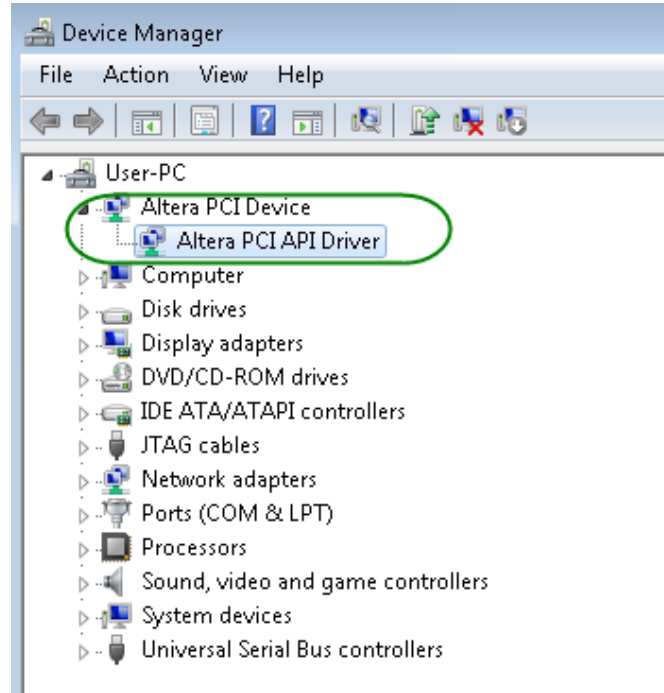

Figure 5-9 Screenshot for PCIe Driver
6. Make sure that Windows has detected the FPGA Board by checking the Windows Device Manager as shown in **Figure 5-9**.